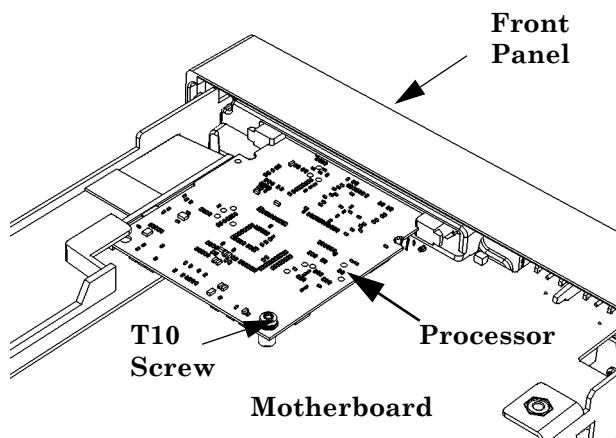

Figure 4-9. Processor Printed Circuit Board
- 2 Turn the chassis upside down. On the bottom of the motherboard, remove the T10 TORX screw that secures the smaller Processor board to the motherboard (see Figure 4-9).
- 18 Re-install the processor board on the underside of the motherboard (removed in steps 2-4 above) as follows (refer to Figure 4-9):